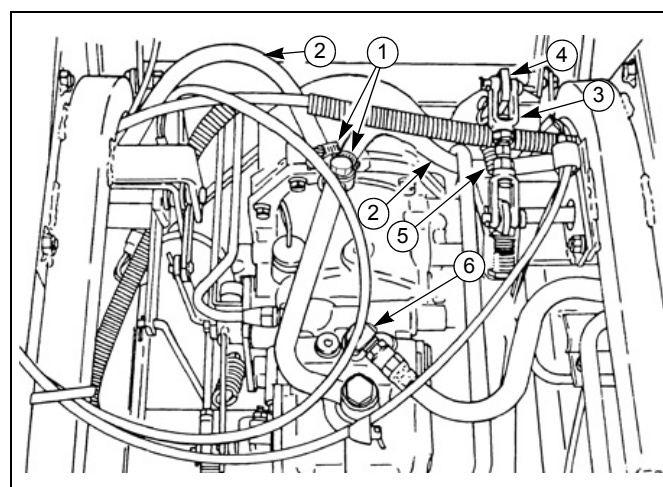

Figure 2-18
28. Remove the banjo bolt and clamp ① from the oil cooler return line. Disconnect the return line ②, from the oil cooler.
29. Use two wrenches (to prevent twisting, a backup wrench must be used) and disconnect the feed line ⑥, for the HST on the top of the HST unit, Figure 2-18.